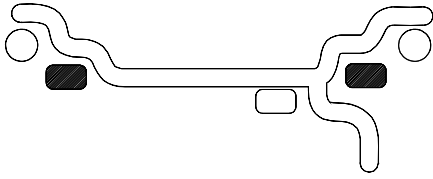

Figure 16 **ALU 1**
C. ALUMINUM MODES. Balancing using a combination of hammer-on and adhesive weights as shown in Figures 16 thru 20.